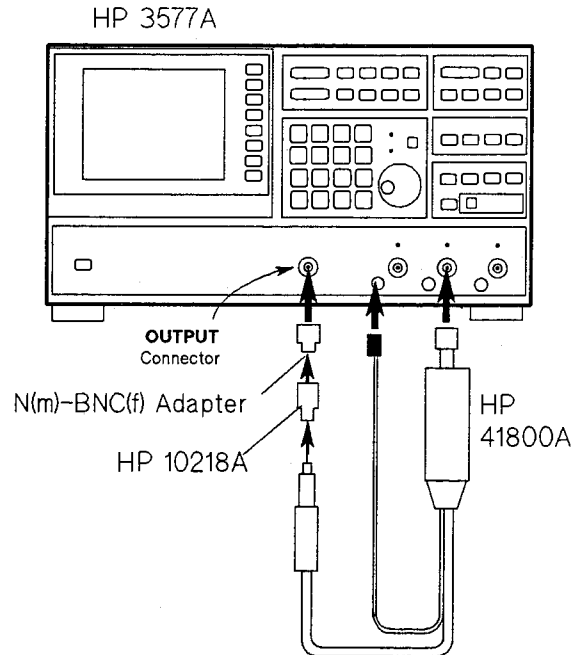

Figure 3-4. Operating Check Setup Using Network Analyzer
Figure 3-4 shows the operating check setup using a network analyzer. To check the probe gain, absolute power amplitude measurement mode should be selected.
1. Connect the equipment as shown in Figure 3-4.